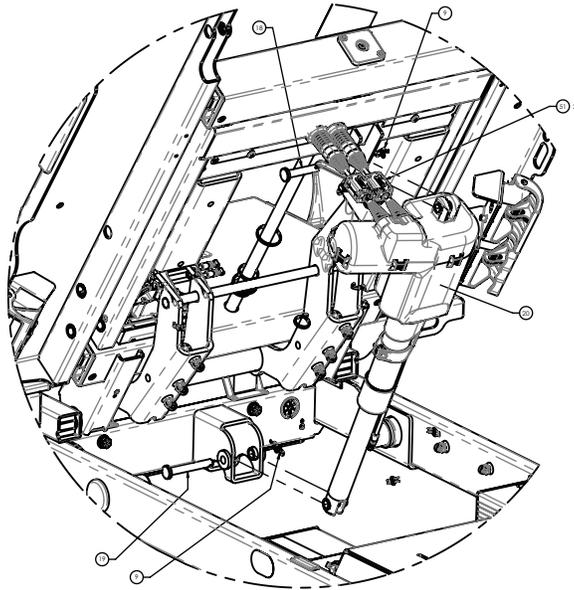

Figure 28 – Fowler actuator replacement
8. Using needle nose pliers, remove both rue ring retaining clips (9) from the clevis pins (18, 19) that attach the actuator (20) to the litter weldment and Fowler weldment (Figure 28).
9. While supporting the actuator (20) with one hand, remove the head end clevis pin (18) and then lower the actuator down (Figure 28).
14. While supporting the actuator (20) with one hand, remove the foot end clevis pin (19) and then lower the actuator down (Figure 28).